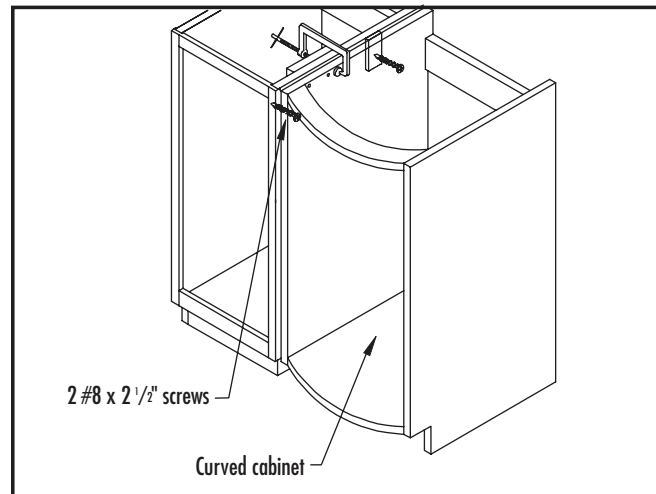

Figure 10
**NOTE:** When securing a 24" curved base cabinet to another cabinet, use two #8 x 2 1/2" woodscrews (Figure 10).